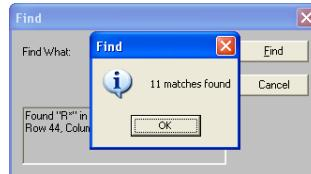

Figure 4.9 “Last match found” dialog box
- ICS finds the last match (shows the total number of matches found—figure 4.9).